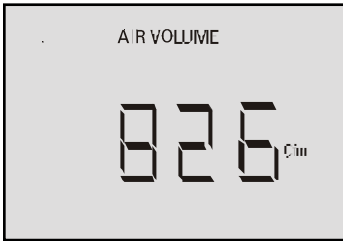

Figure 10
5.4.7 The LCD will display the measured Air Volume in CFM (cubic feet per minute) (Fig. 10).